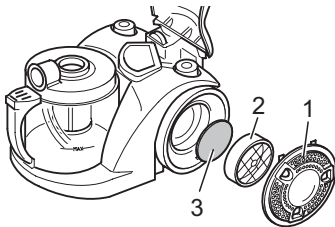

Fig. 28
2. Turn the exhaust filter cover (Fig. 28/1) clockwise to open and remove the cover.
3. Remove the exhaust filter holder (Fig. 28/2) with the exhaust filter element (Fig. 28/3) by turning it clockwise.
4. Replace the exhaust filter element (Fig. 28/3) by a new one (item number ▷Chapter 5.2, "Spare parts").